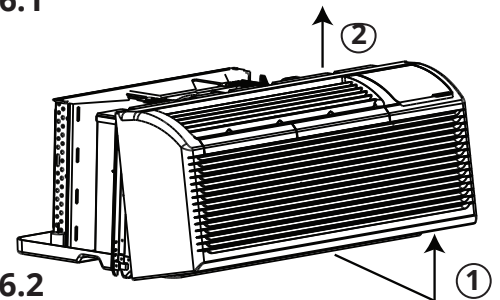

Fig. 6.2
2. Then, remove the front panel. Please refer to **Fig. 6.2**.